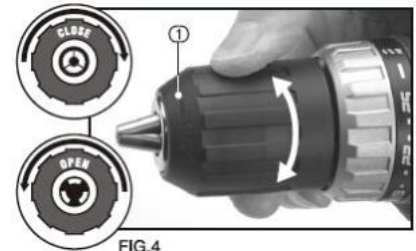

FIG.4
**Installing and removing bits - fig. 4**